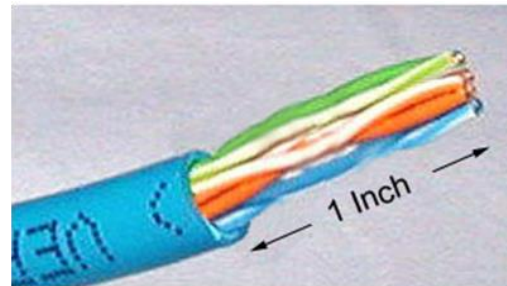

Figure 1 Cut cable end and leave 1 inch
Step 1 Use the crimping tool to cut into the Ethernet cable plastic sheath about 1 inch (2.5 cm) from the end of the cut cable (Figure 1).